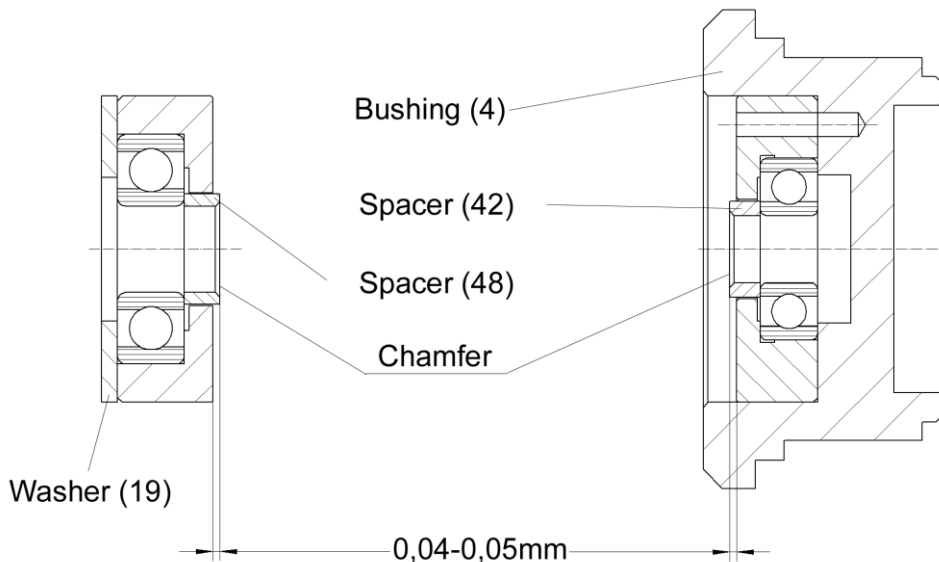

Fig. 7
If the bearings items 41+47 have been replaced, ensure correct spacing. If necessary, use new spacers items 42+ 48 and adjust the clearance Fig 7. The spacer should be fitted 0.04 – 0.05 mm in front of the end plate. To get the right clearance, it is necessary to press the inner bearing ring backlash-free towards the bushing item 4 respectively washer item 19. The chamfered edges of the spacers items 42 and 48 should point towards the plane surface of the rotor.